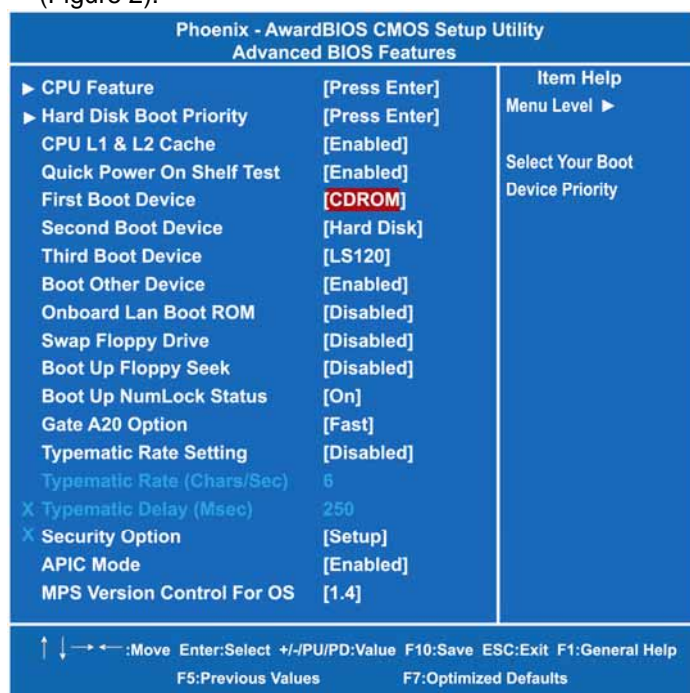

Figure 2
- (2)-2 Set **CDROM** for **First Boot Device** under the **Advanced BIOS Features** menu to boot CD-ROM after system restarts (Figure 2).